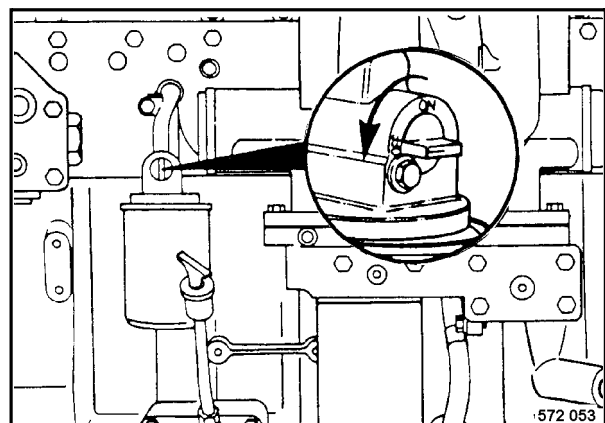

Fig. 8
- Turn the coolant shut-off valve (Fig. 8) counter-clockwise to position "OFF".